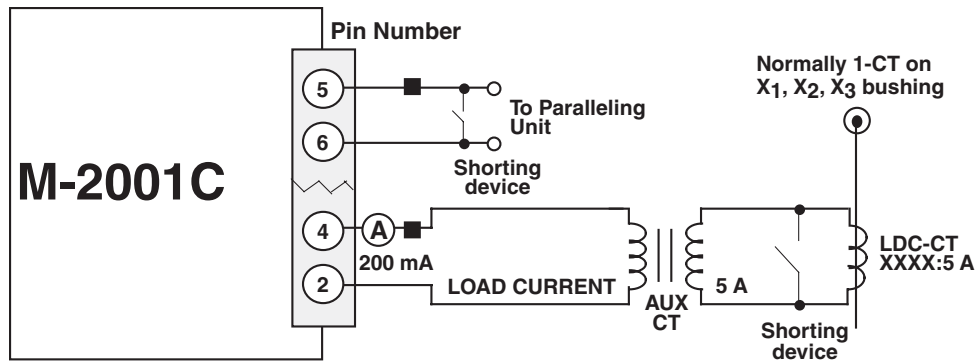

Figure 6 Setup for Current Checkout Procedure
5. As shown in Figure 6, Setup for Current Checkout Procedures, temporarily place a shorting device across the LDC-CT secondary to short the line drop compensator circuit, and place another shorting device to short the circulating current paralleling output, for the load current check.